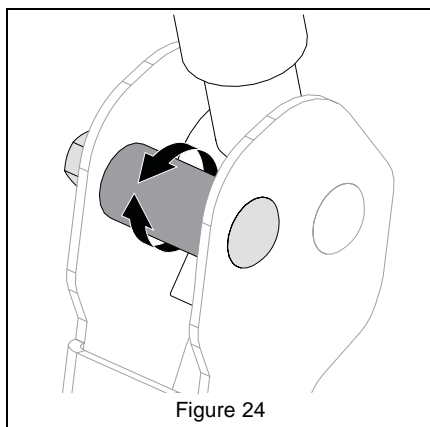

Figure 24
5. Turn eccentric spacer so levers are at the same height and have a 1.3 cm – 2.5 cm (1/2" – 1") gap between lever ends. See Figure 24.